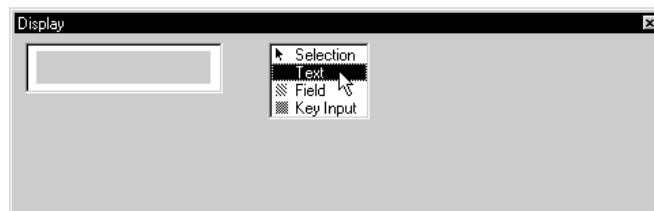

Figure 4-63 Display Window - Select Text Tool
36. Click **Text** from the tool palette (Figure 4-63).